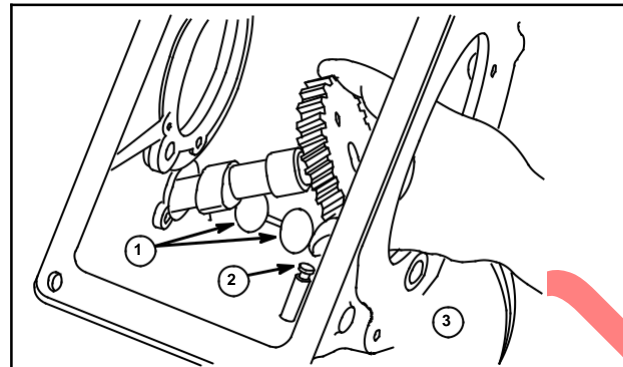

Fig. 18
1. Install breaker plunger (2, when used) and tappets (1).
2. Insert cam gear from PTO side of cylinder (3), Fig. 18.